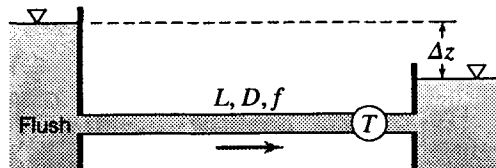

Figure P8.73
8.74 In a testing laboratory, a certain turbine has been found to discharge 285 L/s under a head  $h_t$  of 13.5 m. In the field, it is to be installed near the end of a pipe 110 m long (Fig. P8.73). The supply line (flush entrance) and discharge line (submerged exit) will both have diameters of 250 mm with  $f = 0.024$ . The total fall from the surface of the water at intake to the surface of the tailwater will be 15.5 m. What will be the head on the turbine, the rate of discharge, and the power delivered to the flow? Note that for turbines,  $Q \propto \sqrt{h_t}$  (from Eq. 16.17).